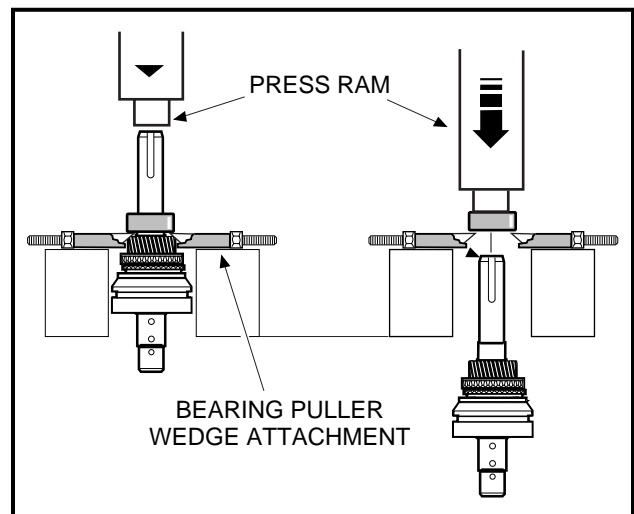

Figure 16-49 Remove Bearing
3. Place a bearing puller wedge attachment (Club Car Part No. 1012812) between the bearing (54) and input gear assembly (52) **(Figure 16-42, Page 16-18)**, then press the bearing off the input shaft as shown **(Figure 16-49, Page 16-21)**. See following CAUTION.